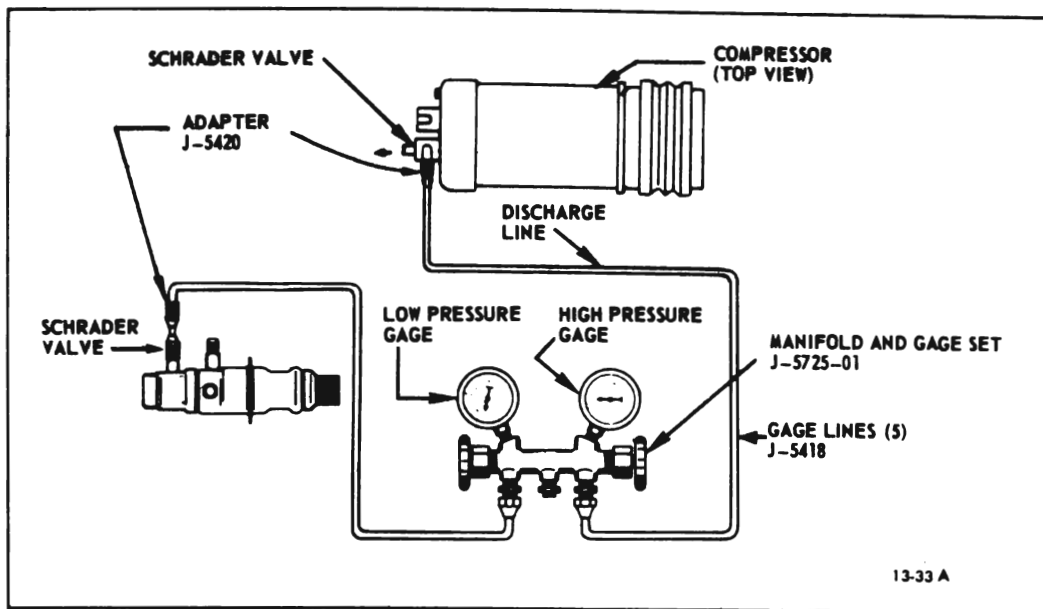

Figure 13-49 Set-Up for Discharging System
2. Install Adapters (J-5420) onto each Schrader valve, see Figure 13-49, and connect a Gage Charging Line (J-5418) between each adapter and the outer connecting ports of the Manifold and Gage Set (J-5725-01). Both valves of manifold and gage set must be closed.